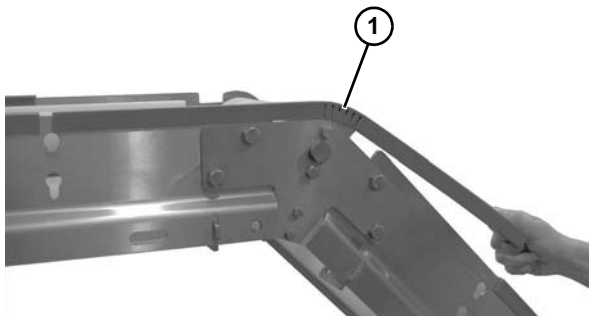

Figure 8
2. Attach bar cap (**Figure 8, item 1**) to frame and knuckle.